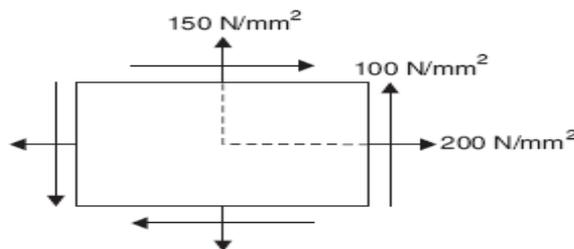

Figure No 4
- b) The state of stress at a point in a strained material is as shown in Figure No 4. Determine: